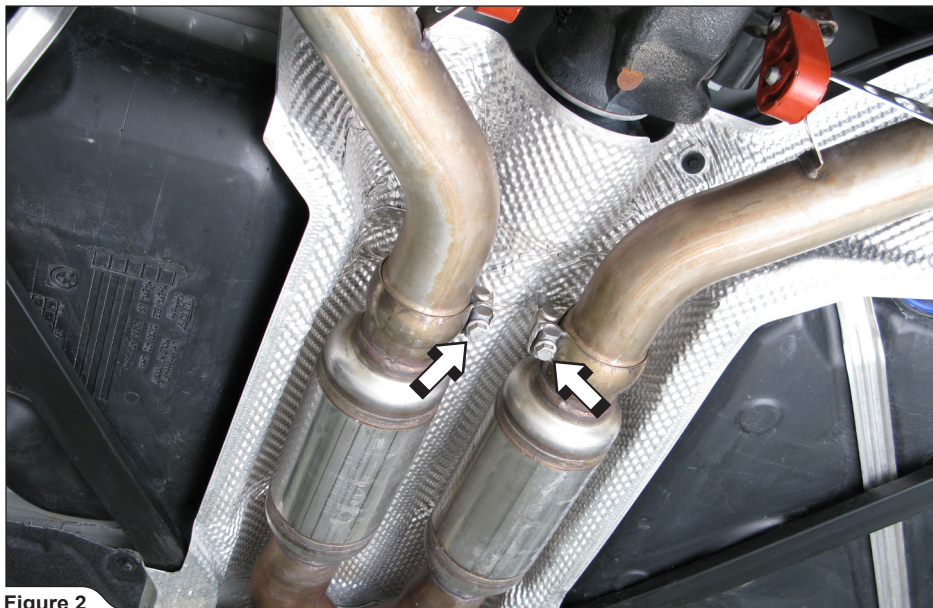

Figure 2
2. Unscrew the marked clamps (**Figure 2**).